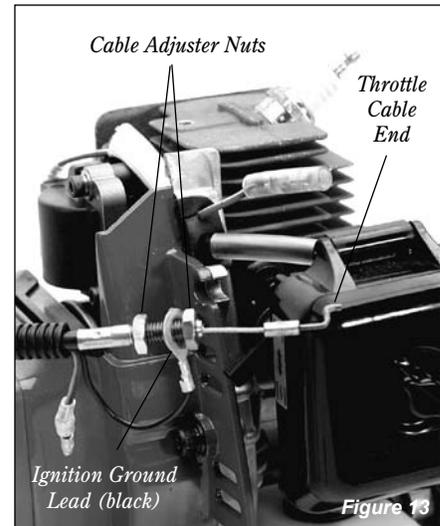

Figure 13
- Loop the ribbed cable assembly to the top left side of the engine. Confirm that the black ground wire (with an eyelet on the end) is located between the two cable adjuster nuts as shown in Figure 13.